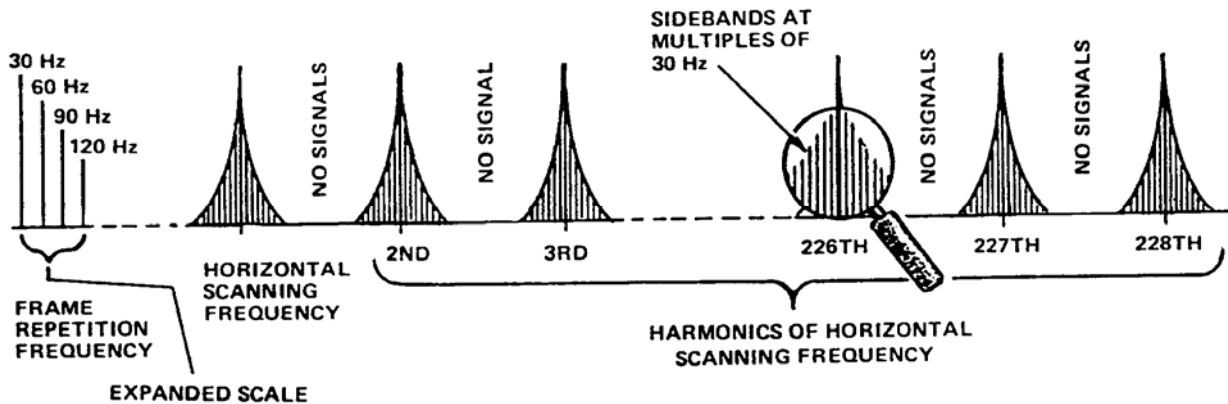
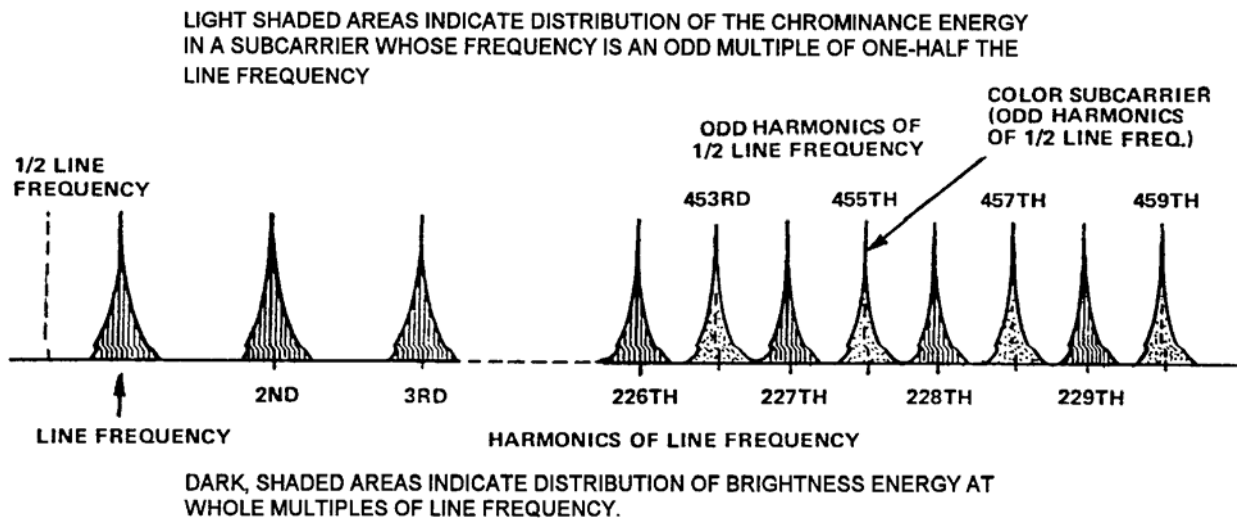

Figure S-18. Distribution of Energy in a Frequency
Figure S-19. Interleaving of the Color Signal with the Luminance Signal
a. Figure S-18 indicates that in a TV scene, the electrical signal (that is, the repetitious line signal) consists of bursts of signal energy at the line harmonics with harmonics of 30 (frame rate) and 60 (field rate) Hz clustered on either side. Other frequencies are attenuated so much that the space in between is considered to be unoccupied by any electrical signal. From Figure S-18 it can be seen that half of the video spectrum is unused.
b. Since the scanning rates for the chrominance (color) and for the luminance (black and white) signals are the same, the concentrations of energy produced by both are spaced at the same intervals. It is feasible, therefore, that the bands of concentrated energy of the chrominance signal could be spaced between the bands of the luminance signal. As seen in Figure S-18, the spaces in the frequency occur at odd multiples of one-half the line frequency. If a subcarrier frequency equal to an odd multiple of one-half the line scanning frequency is chosen, the chrominance and luminance signals are interleaved. This practice is followed today and is shown in Figure S-19.